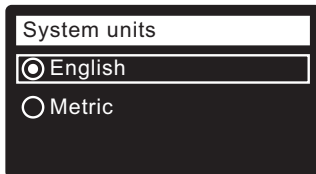

FIG. 29
- 3. SYSTEM UNITS** If the desired system already has a dot next to it (See Figure 29), go to Step 4. Otherwise, press the DOWN (▼) or UP (▲) buttons to scroll to the desired system, then press the SELECT (○) button to choose it.